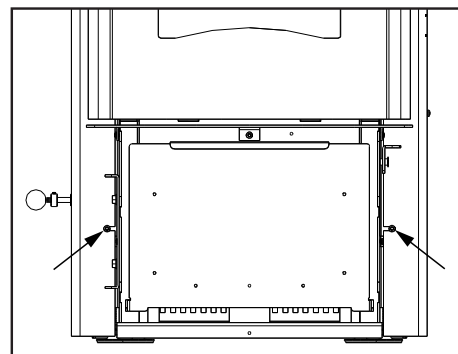

Figure 11: Screw behind ash box.
1. Slide a hearth pad tab through each of the three (3) slots on the hearth pad so the slotted end is up and secure in place with a T-20 screw through the pad into the tab (refer to Figure 11).